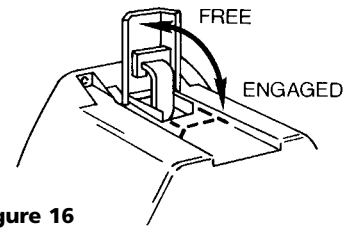

Figure 16
Lift the clutch lever to the "Free" position as shown in Figure 16. If there is a load on the wire rope, the clutch lever may not turn easily. DO NOT FORCE THE CLUTCH LEVER. Release tension on the wire rope by jogging out some of the wire rope. Releasing the clutch and pull out the wire rope and secure to anchor or load. Check that there are at least five (5) turns of wire rope left on the drum. Re-engage the drum by returning the clutch lever to the "Engaged" position (see Figure 16).